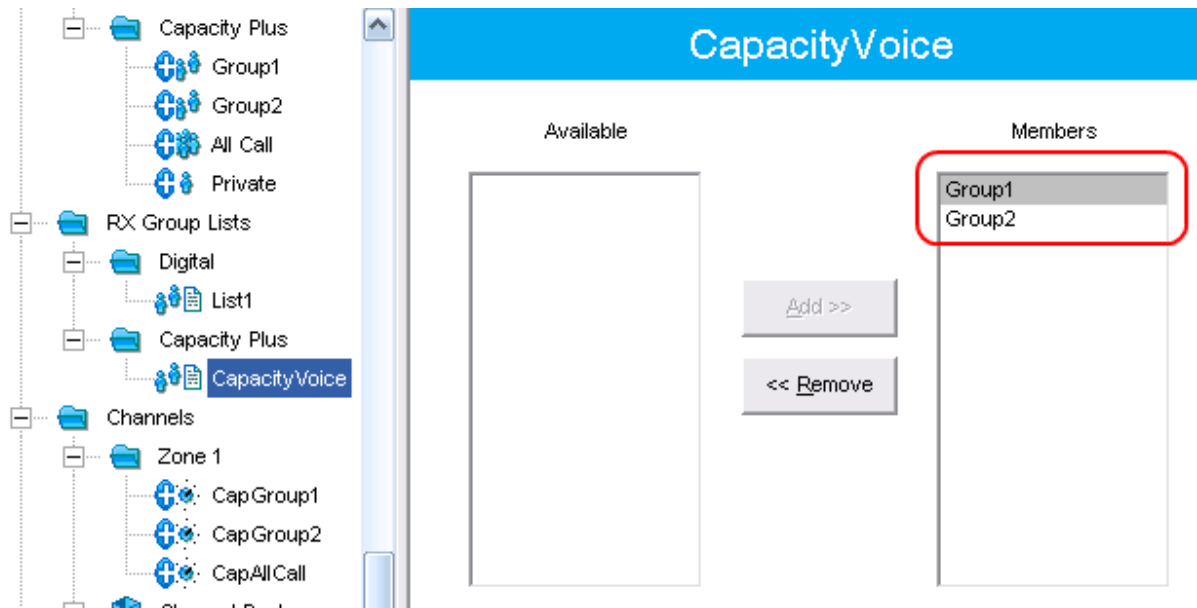

Fig. 27 - Adding contacts to RX Group List
8. Add created contacts to Capacity Plus **RX Group List** (Fig.27).